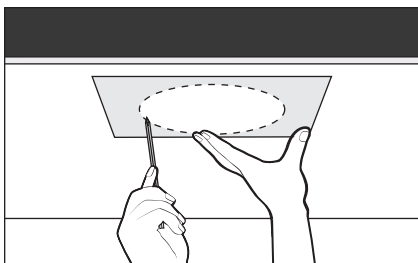

Figure 7a.
3. Hold or tape the template in place and mark cutout with a pencil (figures 7a & 7b).